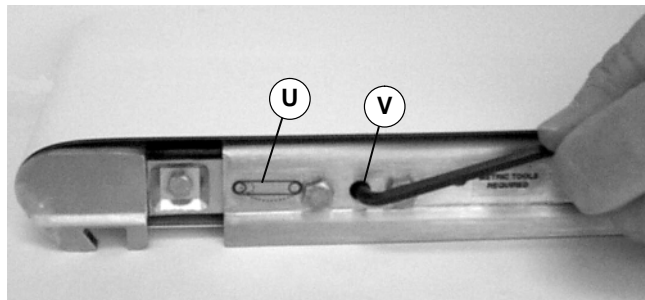

Figure 18
3. On tension end of the conveyor identified with a  label (U Figures 18 & 19), insert a 5 mm hex key wrench to engage pinion gear (V of Figure 18).
1. On tension end of the conveyor identified with a  label (U Figures 18 & 19), insert a 5 mm hex key wrench to engage pinion gear (V of Figure 18).
NOTE: On pinion gear (V of Figure 18), do not exceed of 2.8 Nm for 44 mm to 305 mm wide conveyors and 4.5 Nm for an 457 mm wide conveyor. Over-tensioning the conveyor belt could cause excessive pulley bearing load and early failure.